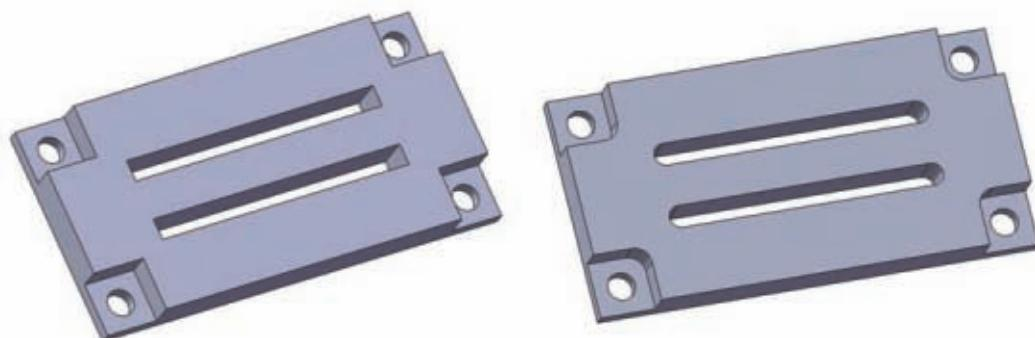

Figure 5-4 Square corners are nearly impossible to cut with a milling machine. Include radii on pockets and cut outs when possible.
9. Be aware that milled pockets have to have a radius somewhere. (see Fig. 5-4)